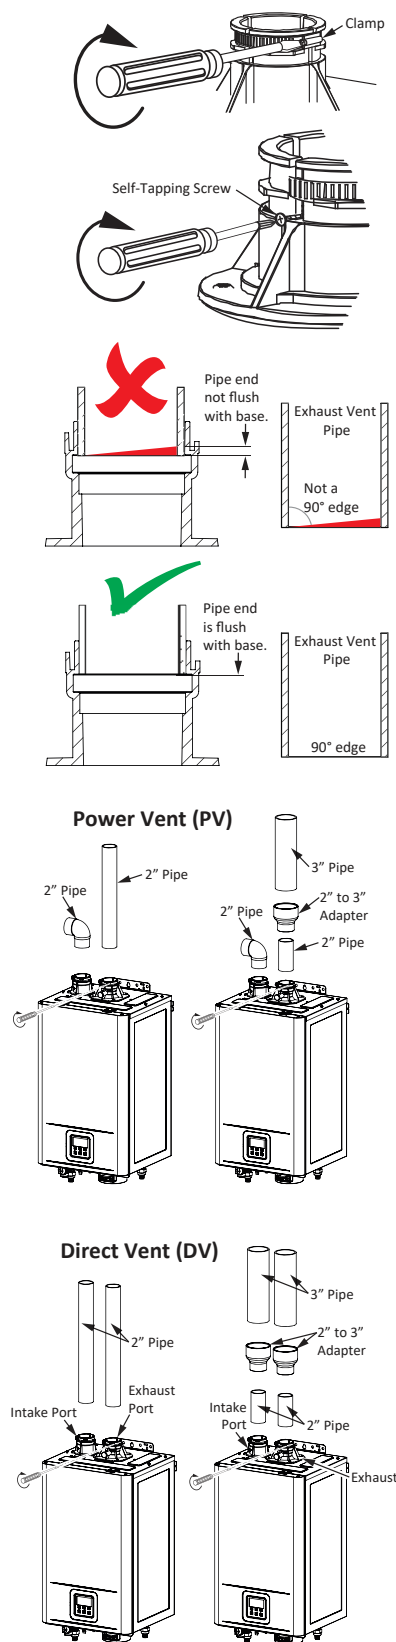

Figure 15 - Vent Pipe Installation
- 1 Insert 2" straight pipe fully into the exhaust/intake ports. (See Figure 15) The pipes should insert 2 inches.
- 2 Use a screwdriver to tighten the clamp. (See Figure 15)
- 3 Use the supplied self-tapping screws to secure the venting to the intake and exhaust ports as shown in the image on the right. (See Figure 15)